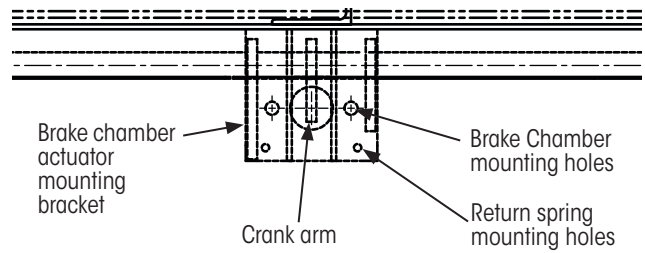

Figure 58: SLKU brake chamber actuator mounting bracket
1. **Slide** the brake chamber pushrod through the mounting bracket (Figure 58). **Ensure** the crank arm aligns to the pushrod clevis.